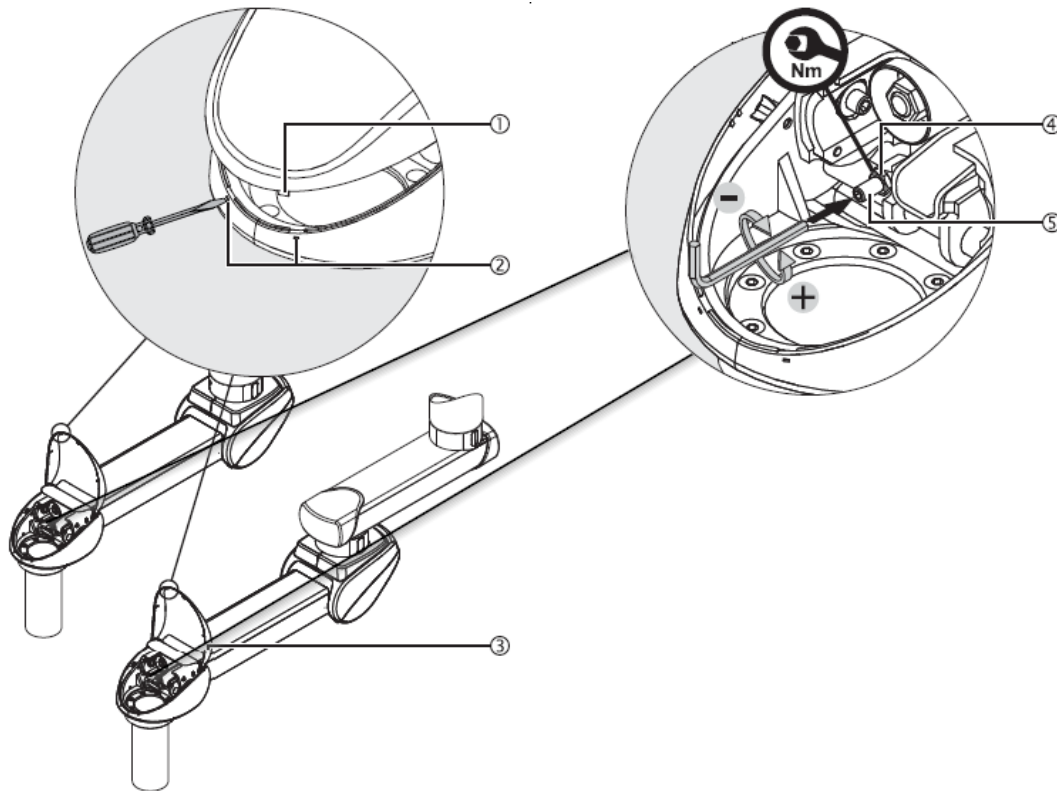

Fig.74 Adjusting the vertical lift on a spring arm
- Loosen and turn back the M12 hexagon nut (4) - ISO 4035.
- Insert the Allen key into the set screw (5).
- To reduce the vertical lift, turn the Allen key to the left (counterclockwise) as illustrated in Figure 74.
- To increase the vertical lift, turn the Allen key to the right (clockwise) as illustrated in Figure 74.
- Tighten the hexagon nut M12 (4) - ISO 4035.